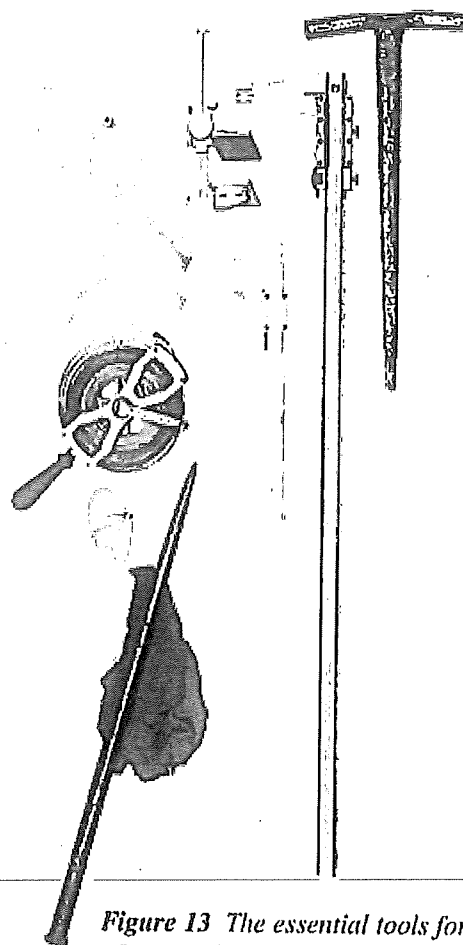

Figure 13 The essential tools for inspection of ropes, sheaves, drums and attachments.
1. Gather your inspection tools and supplies. For a complete inspection of the rope, sheaves, drums and end attachments, you'll need (Figure 13):